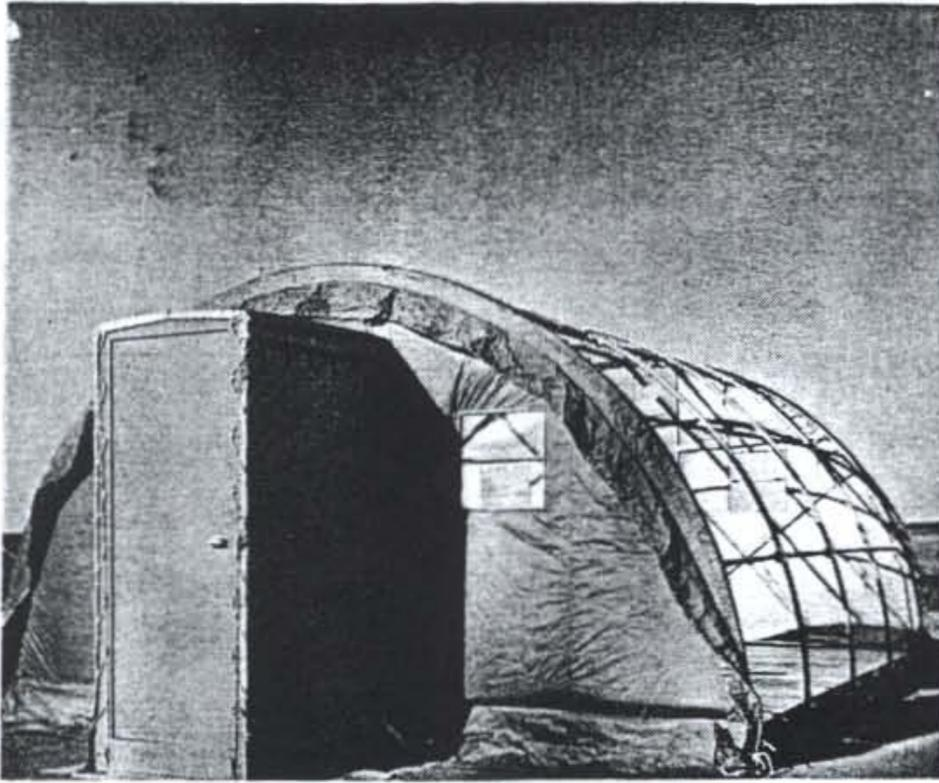

FIGURE 8
10. Vestibule may be completed at this stage if Unit is equipped with one. (SEE FIGURE 8).